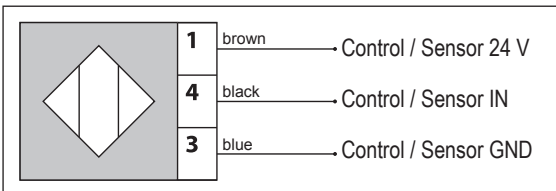

Fig. 10-4: Connection of sensor to the control panel. Connection for impulse mode should also be done according to this figure.
- Connect sensor according to figure 10-4.